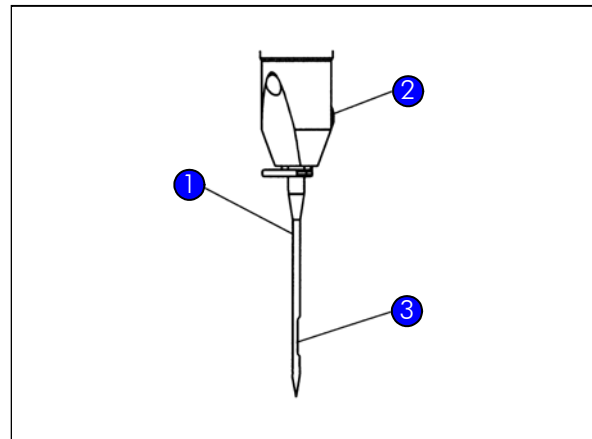
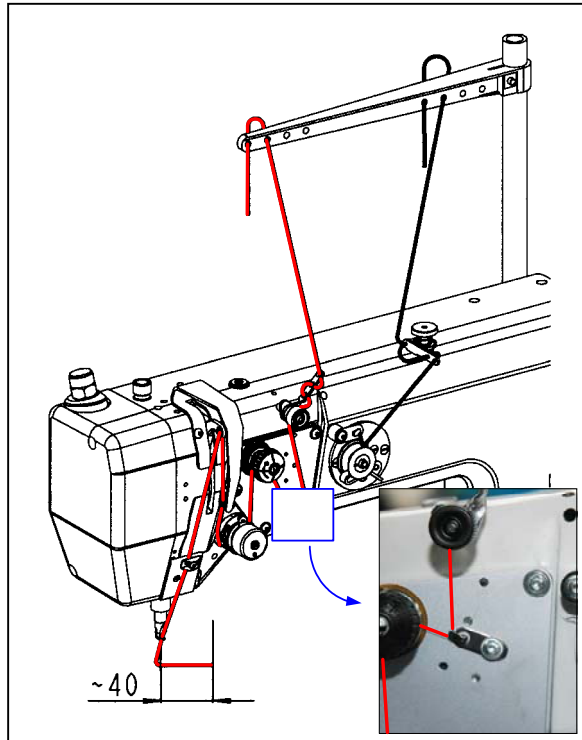

Figure 15 Installing the needle
Figure 16 Upper thread
- ▶ Loosen bolt ② (Figure 15) and remove the old needle.
- ▶ Push the new needle ① as far upwards inside the needle bar as possible.
- ▶ Ensure that the groove ③ (above the eye) is placed in the same direction as the gripper.
- ▶ Tighten bolt ②.
- ▶ Thread the upper thread as shown in Figure 16.